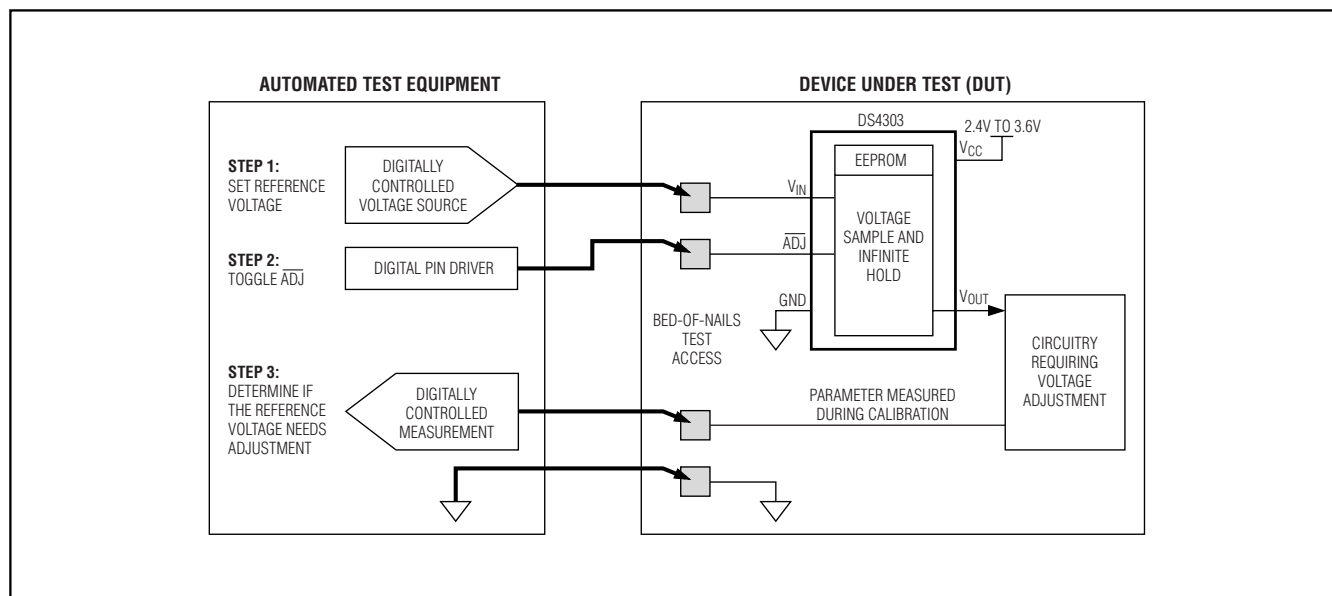

Figure 2. Application Circuit
Figure 2 details an example of how the DS4303 can be adjusted in an application. During factory alignment, a three/four-node bed-of-nails is used to: (1) provide the adjustment voltage through the  $V_{IN}$  pin, (2) control the  $\overline{ADJ}$  input, and (3) sense the needed feedback parameter. During manufacture, an automated test procedure adjusts  $V_{OUT}$ , by changing  $V_{IN}$ , until the feedback parameter is optimized. After the bed-of-nails operation is complete, both the  $V_{IN}$  and  $\overline{ADJ}$  inputs are left open